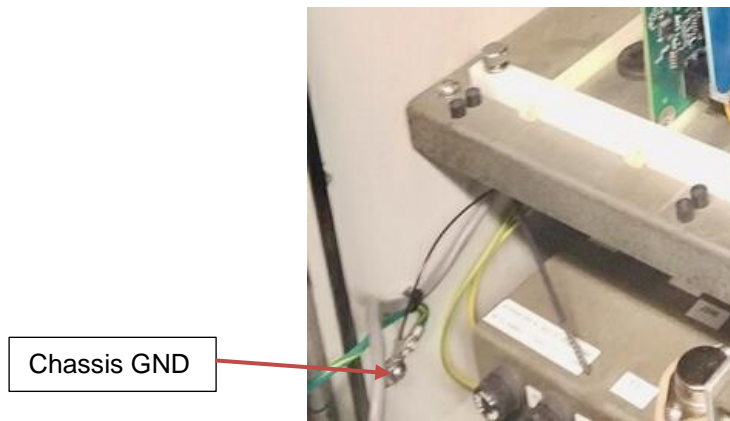

FIGURE 1
- i. Install the Temp Control board Chassis Ground wire by performing the following steps (Refer to Figure 1):
- j. Install the Temp Control board Chassis Ground wire to any **one**¹ of the 24VAC power cables by performing the following steps (Refer to Figure 1):